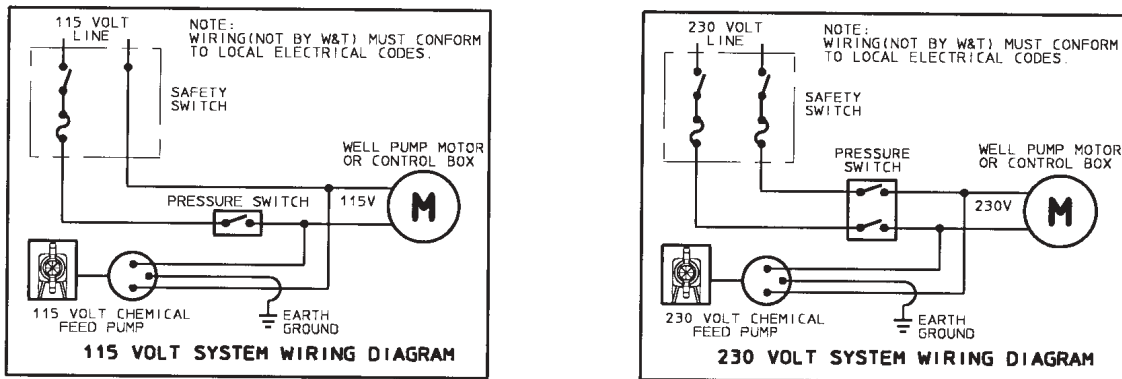

Figure 2.6
- Ensure that the metering pump voltage matches the voltage of the well pump. Typical well pump electrical circuits are shown in Figure 2.6. All electric wiring should be installed by a licensed electrician and in accordance with local electrical codes.